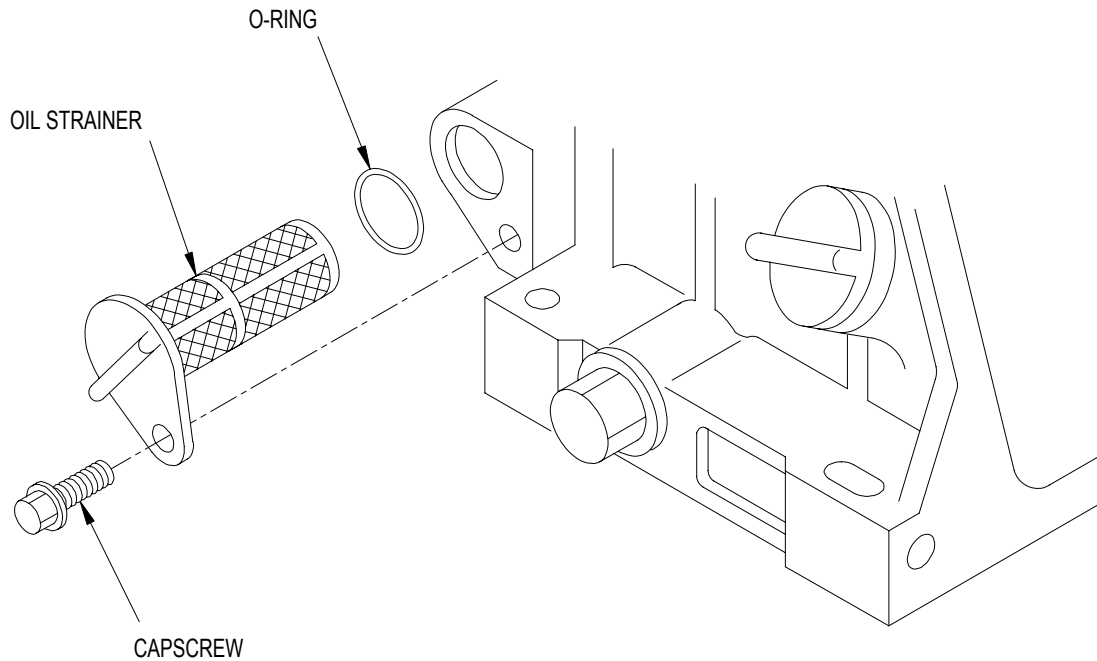

Figure 4-57. Engine Oil Strainer
- (2) Remove oil drain plug and drain lubrication oil into an appropriate chemical resistant container for disposition/disposal through the local servicing Defense Reutilization and Marketing Office (DRMO). Install oil drain plug.
- (3) Remove capscrew (Figure 4-57) and oil strainer from crankcase.
- (4) Remove and discard o-ring from oil strainer.
- (5) Coordinate disposition/disposal of waste oil with the IEO and DRMO.
- (1) Clean oil strainer (Figure 4-57) in approved solvent (Item 19, Appendix E).
- (2) Inspect oil strainer for torn or crushed mesh, corrosion, and other damage.
- (3) Replace oil strainer if damaged.
- (1) Install new o-ring (Figure 4-57) on engine oil strainer.